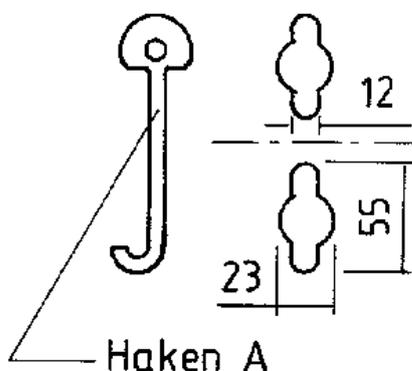
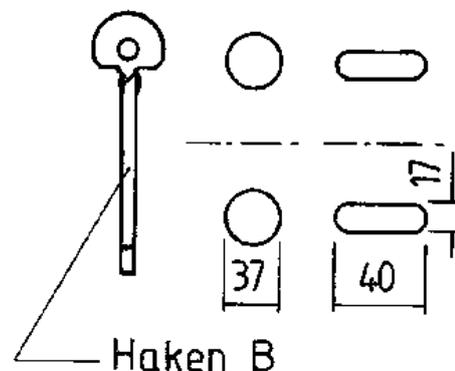

Abb. 2
Abb. 3
2 hooks are required in each case to lift out the lids. Hook A is suitable for round openings with a slot on both sides (Fig. 2) and hook B for round openings or oblong holes (Fig. 3).
- After setting down the frame, the locking lever (5) engages under the U-profile (6) and the gripper can be lifted off empty. If the locking lever does not engage, press down the clamping lever (4) by hand.
- First check whether the hooks A or B fit into the openings and grip the lid securely (Fig. 2 and 3). If this is not the case, special hooks must be used.